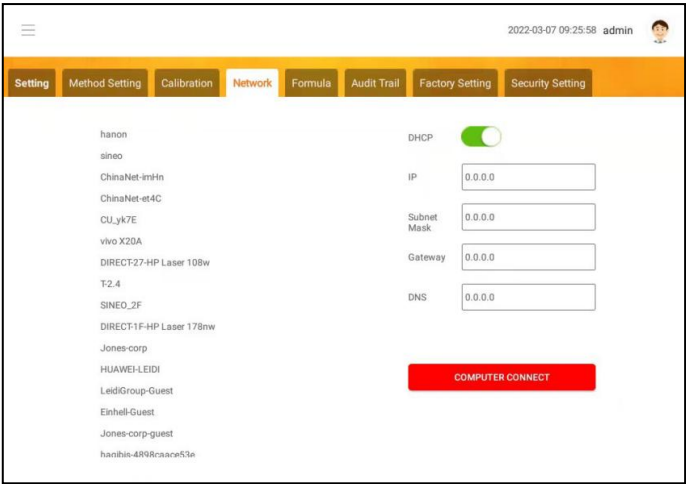

Fig. 41
6. Click the menu bar in the upper left corner of the instrument interface, select "Settings" in the popup frame, and then select "Network Settings" to pop up the interface as shown in Fig 41